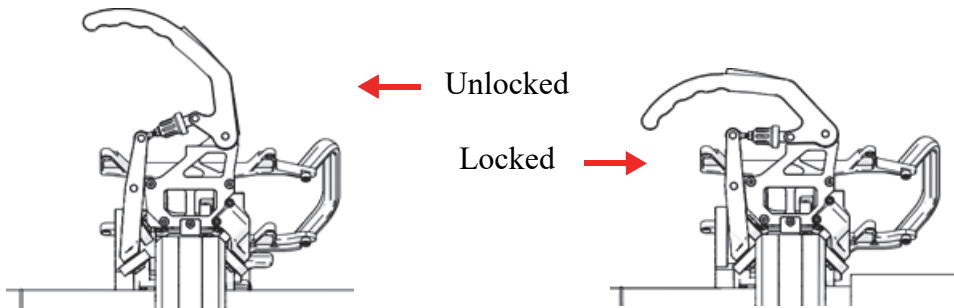

Figure 1-32 Band clamp lever positions
2. Ensure the band clamp lever is in the unlocked position (see Figure 1-32 on page 49).